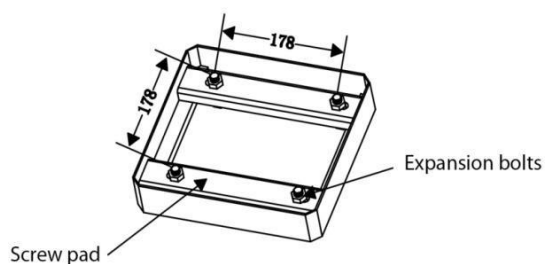

Fig. 2.2
- Drive four expansion bolts into the bolt holes, as shown in **Fig. 2.2**.